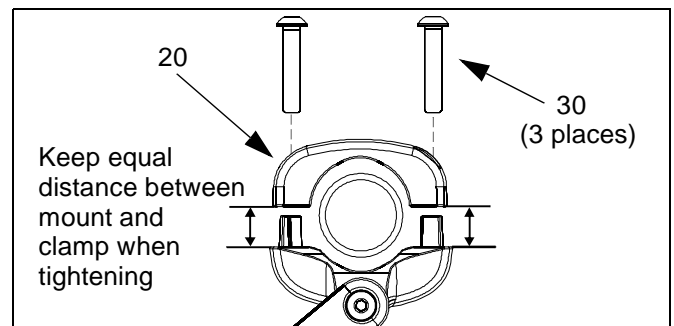

Figure 10: Securing Pole Mount and Clamp
NOTE: Equally tighten screws (30) against mount and the pole clamp (20). (See Figure 10)
- Position mount at desired height and orientation. Tighten screws (30) securely.